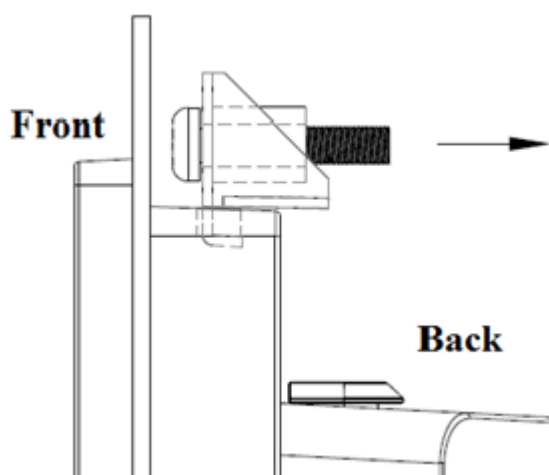

Figure 2.25 Hook brackets location
4. Insert the hook brackets into the holes following the direction of the arrows shown in Figure 2.25 and hang the panel PC.